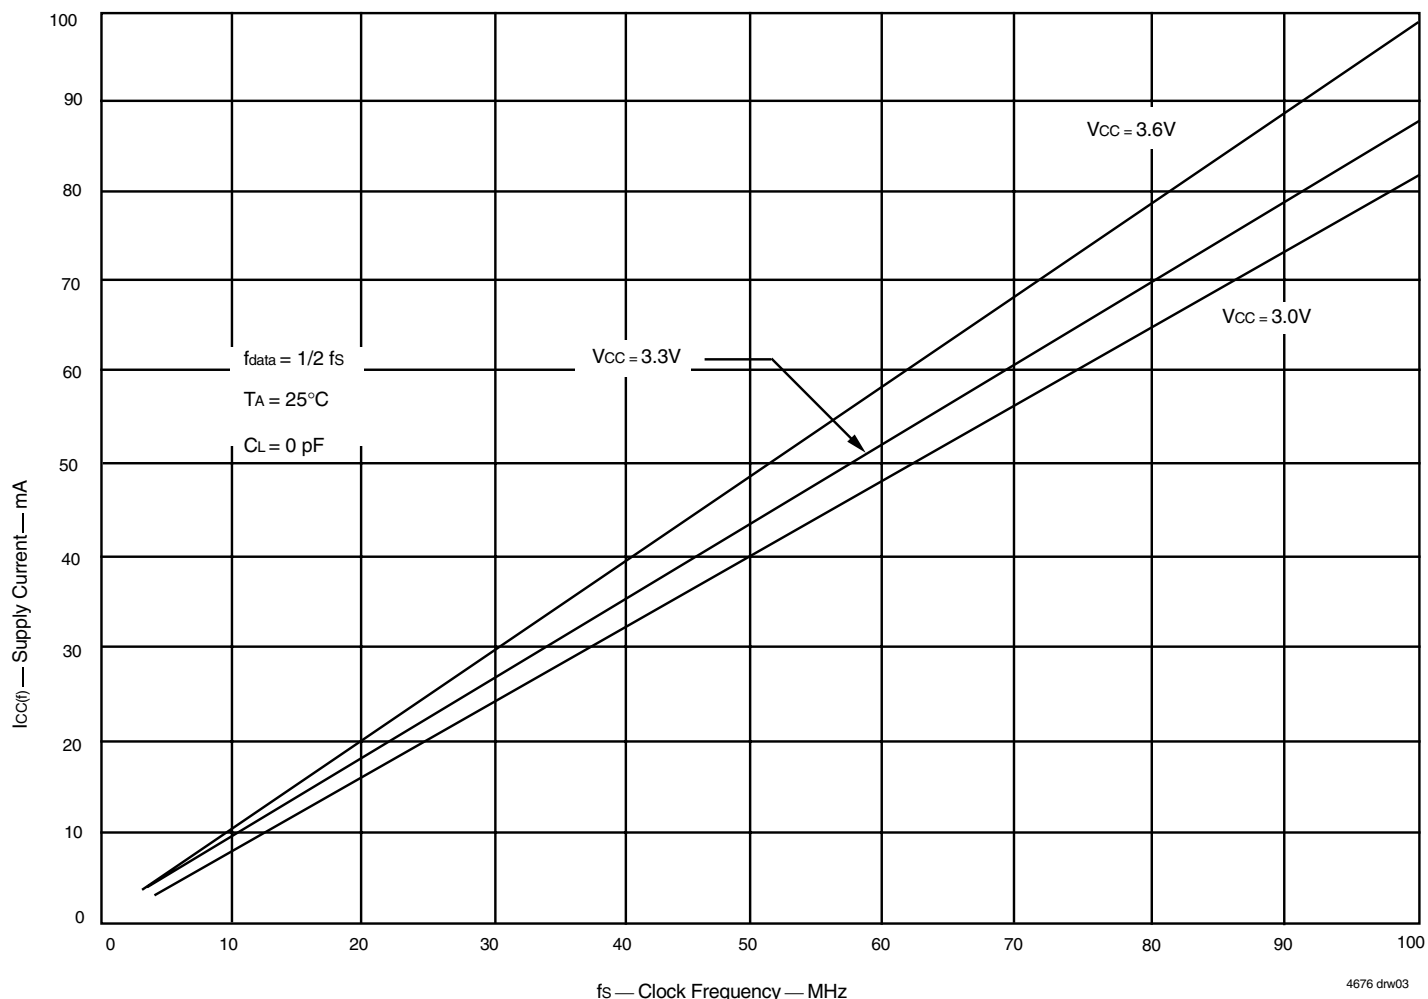

Figure 1. Typical Characteristics: Supply Current (I_{CC}) vs. Clock Frequency (f_s)
- For additional I_{CC} information, see Figure 1, *Typical Characteristics: Supply Current (I_{CC}) vs. Clock Frequency (f_s)*.
The $I_{CC}(f)$ current for the graph in Figure 1 was taken while simultaneously reading and writing a FIFO on the IDT72V3686/72V3696/72V36106 with CLKA, CLKB and CLKC set to f_s . All data inputs and data outputs change state during each clock cycle to consume the highest supply current. Data outputs were disconnected to normalize the graph to a zero capacitance load. Once the capacitance load per data-output channel and the number of these device's inputs driven by TTL HIGH levels are known, the power dissipation can be calculated with the equation below.
With $I_{CC}(f)$ taken from Figure 1, the maximum power dissipation (P_T) of these FIFOs may be calculated by: